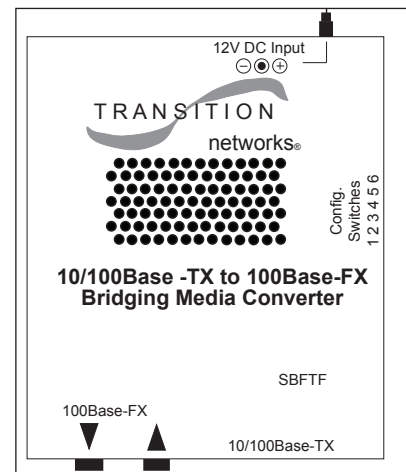

Figure 9: Fiber Media Converter
1. Disconnect the power and signal connections, referring to **Figure 9** for connector locations.